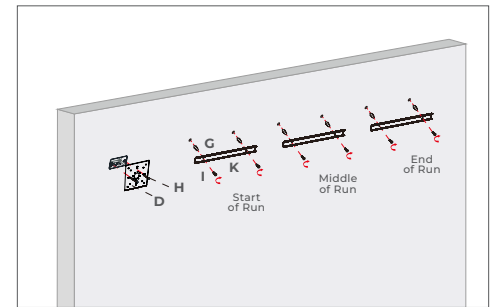

FIGURE 2-5
- 3) Install plate and bracket from Start-of-Run to End-of-Run (Figure 2-5)